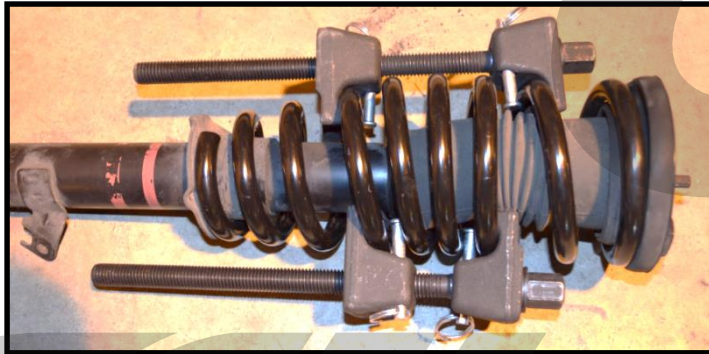

Figure 3c
- Place the boot and upper strut mount assembly over the top of the spring and hold the strut assembly together by threading the 17mm nut on. Shown in Figure 3c.